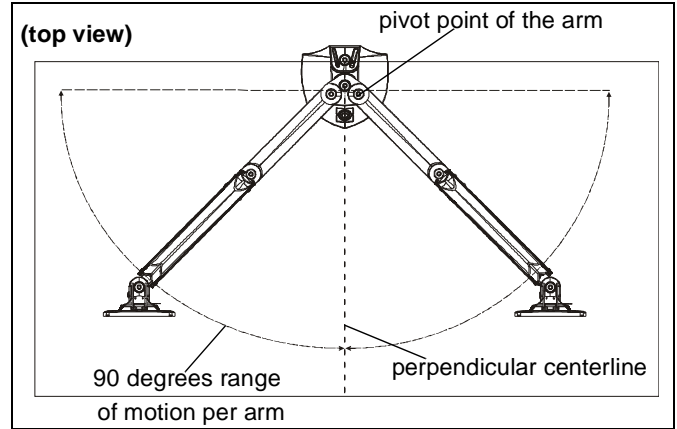

**Figure 23**
1. Adjust arm angle as desired up to 90 degrees in either direction. (See Figure 23)